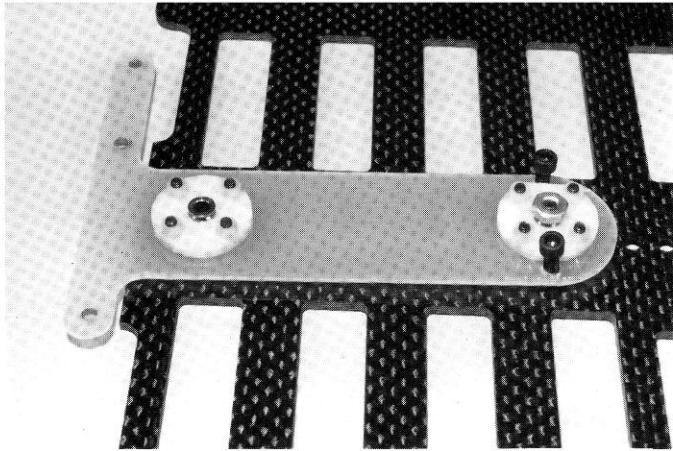

Fig. 17
□ **Figs. 17 & 18**—Mount the T-bar onto the chassis as shown in Fig. 17, with the short 4/40 flat head allen screw in the front and the longer screw in the rear and with the locknut on the front screw and the short threaded aluminum tube #8328 on the rear.